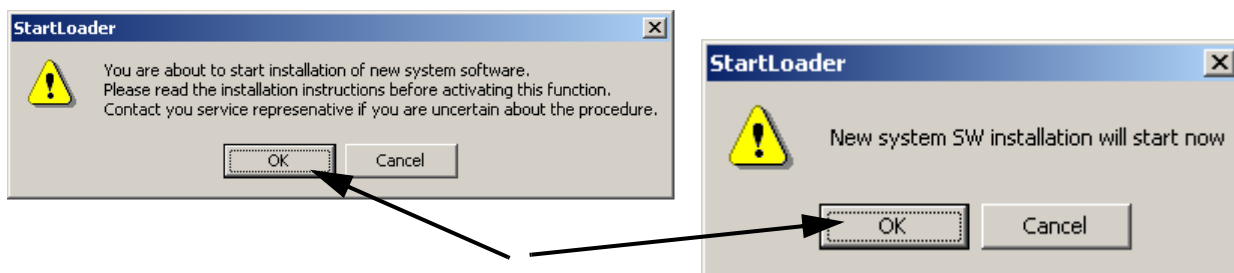

Figure 3-28 Start Loader Dialog Boxes
- 6.) There will be two dialog boxes popping up warning you that you are about to install new software as shown in Figure 3-28 on page 3-30 . In both cases click OK.